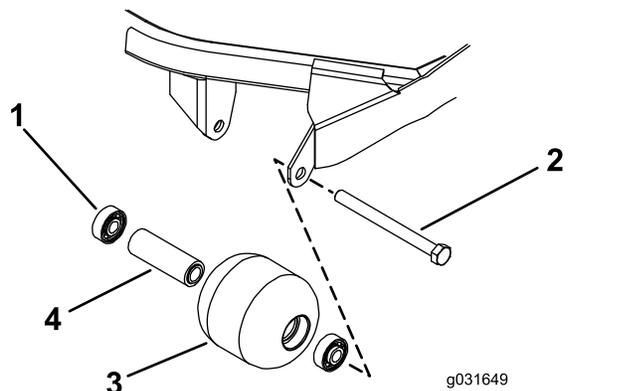

Figure 70
- Remove the roller-mounting bolt (Figure 70).
- Inspect the roller housing, bearings, and bearing spacer for damage (Figure 70).
1. Pressing on the outer race only or equally on the inner and outer race, press the first bearing into the roller housing (Figure 70).
2. Insert the spacer (Figure 70).
3. Pressing on outer race only or equally on the inner and outer race, press the second bearing into the roller housing until it contacts the spacer (Figure 70).